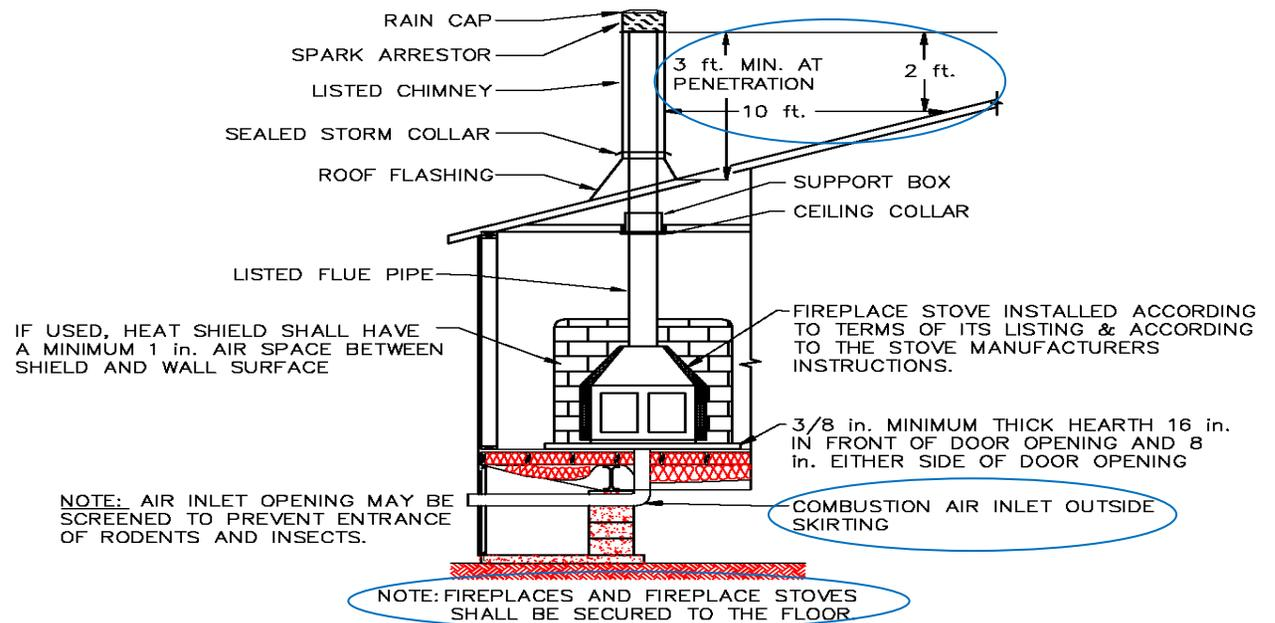

Figure 9-3.3 Typical Fireplace Stove Installation
- Combustion air intake ducts may not terminate under the home and must extend outside the skirting. See Figure 9-3.3